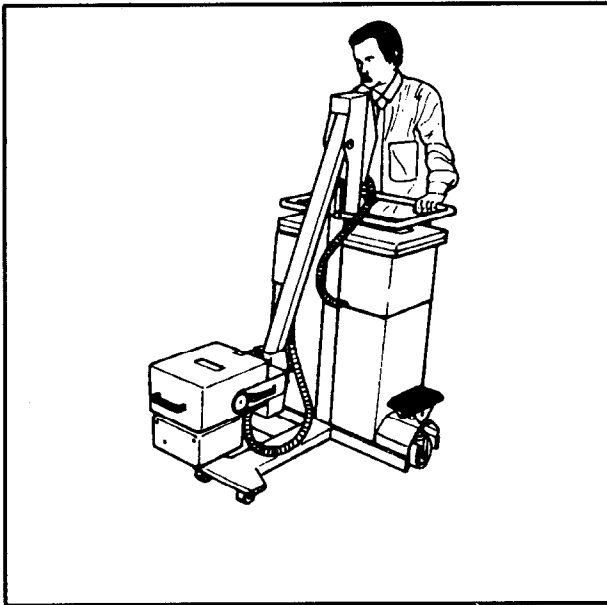

Fig. 1
- Move the support arm (Fig. 1) into the travel position and check the locking mechanism.